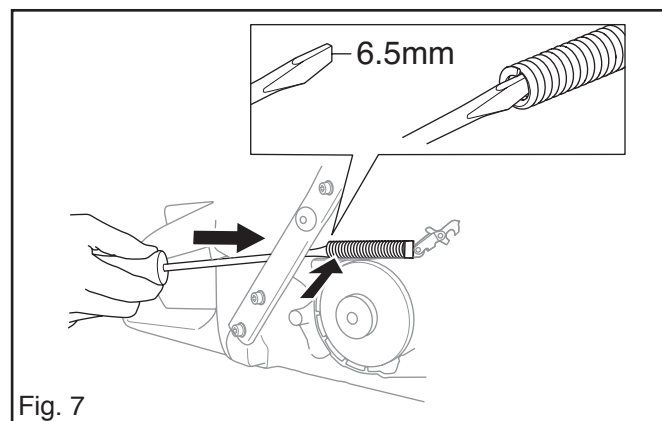

Fig. 7
3. Compress the spring using a conical screwdriver 6.5 mm wide and press it down with your thumb. See fig. 7.